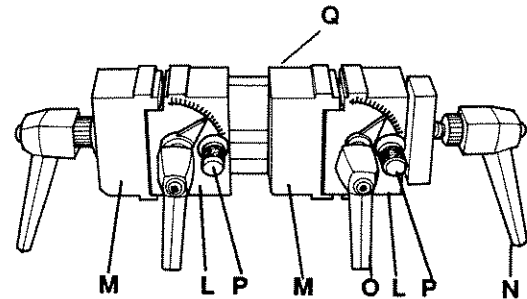

Figure 7
The vise assembly (Q) is secured to the machine base by two thumb screws located behind the assembly. When removing the vise assembly, note the extremely close fit of the vise assembly posts into the machine base (see Figure 7).